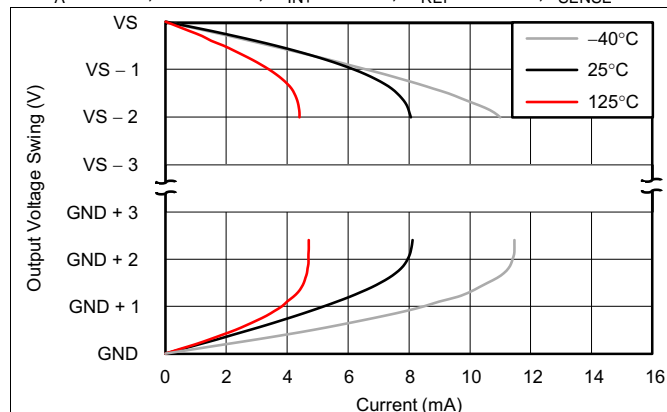

Figure 19. Output Voltage Swing vs Output Current
(6) System gain error includes amplifier gain error and the integrated sense resistor tolerance. System gain error does not include the stress related characteristics of the integrated sense resistor. These characteristics are described in the Shunt Resistor section of the Electrical Characteristics table.
(7) See *Typical Characteristics* curve, *Output Voltage Swing vs Output Current* (Figure 19).